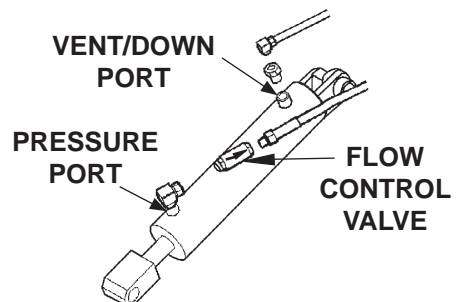

FIG. 48-3
2. Check the hydraulic cylinder. With the platform on the ground, remove the breather plug or vent line from the vent/down port of the cylinder (**FIG. 48-3**). Raise the platform even with the bed. Allow pump motor to run two seconds more while you watch for hydraulic fluid at the vent/down port. A few drops of hydraulic fluid escaping the vent/down port is normal; however, if it streams from the vent/down port, piston seals are worn. Replace seals.
3. Check and clean flow control valve in high pressure hydraulic line attached to cylinder. When installing flow control valve, make sure arrow on valve is oriented as shown in **FIG. 48-3**.